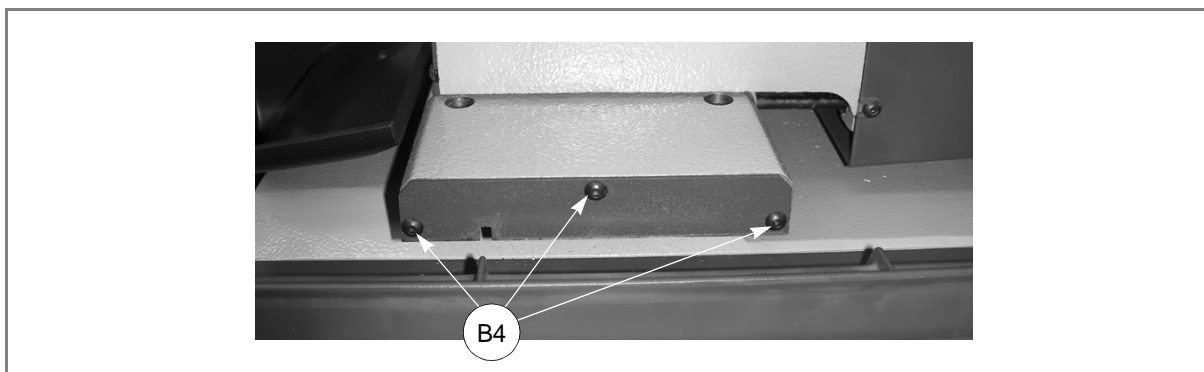

Fig. 56
- 5) remove the front cover on the (X axis) lower carriage by unscrewing the 3 (B4) screws (fig. 56).